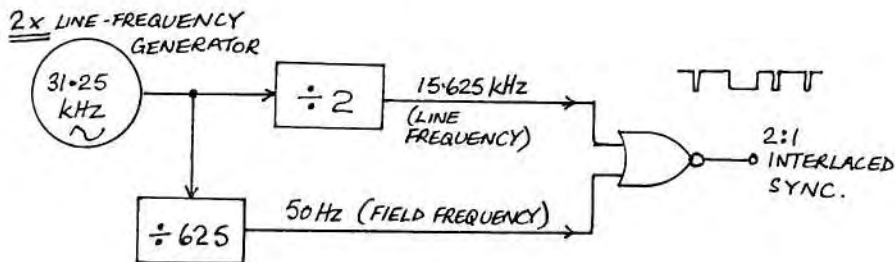

Fig.6
For comparison, Fig.6 shows diagrammatically the method for generating a 625-line 2:1 interlaced signal. Two points to note here are - (1) that both line and field frequencies are derived from a common oscillator; and (2), the interlace is generated by starting from TWICE line frequency, and by dividing by the number of lines per FRAME, we arrive at the FIELD frequency. A moment's thought about this method should make it clear that 312.5 lines will be generated in each FIELD, the requirement for interlaced scanning.